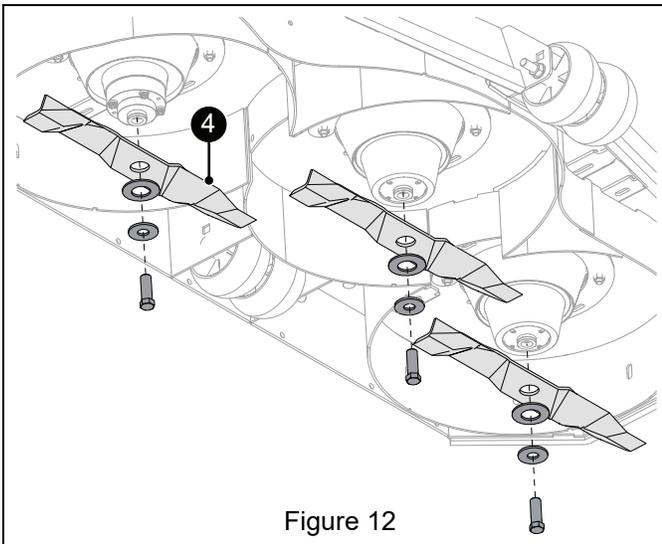

Figure 12
1. Secure one mulching blade (item 4) to each spindle with original blade hardware. Ensure washers are installed with cupped side against blades. Torque bolts to 156 N•m – 217 N•m (115 lb-ft – 160 lb-ft). See Figure 12.